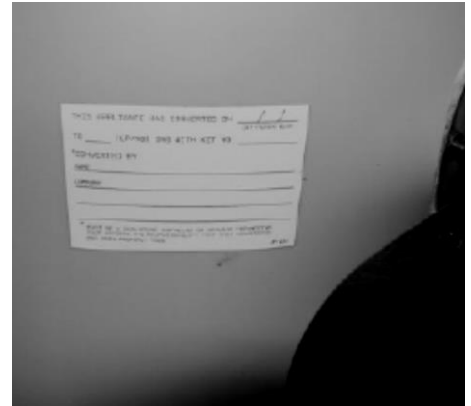

Figure 20 – Label Filled In by Service Technician
- Place the label with information filled in by the Qualified Service Technician in an area close to the gas shut off as shown in Figure 20.